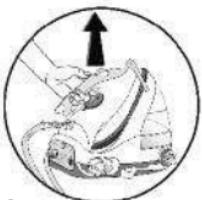

fig.1
- Your steam generator is equipped with a retaining hoop which locks the iron on its base for easier transport and storage – **fig.1:**
- Grasp the handle of the iron to carry your steam generator – **fig.1.**